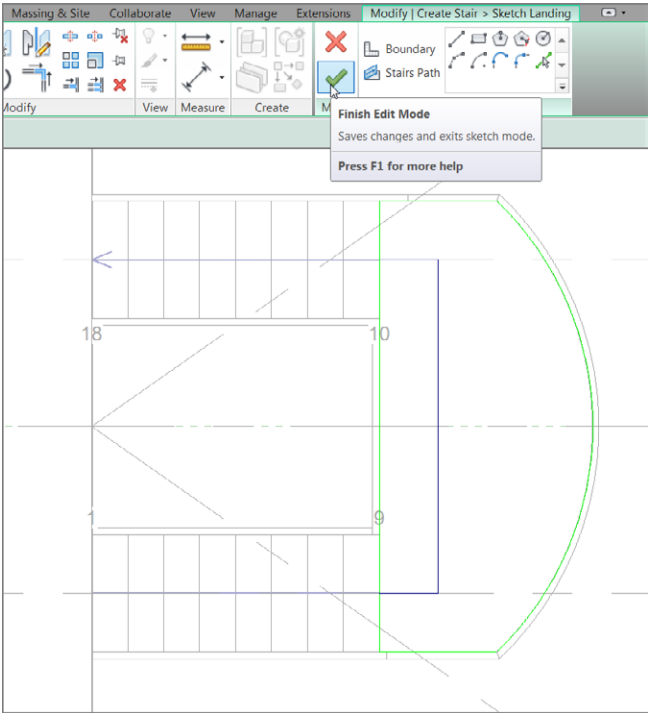

FIGURE 10.9: Finishing the sketch
3. Click the Finish Edit Mode button, as shown in Figure 10.9.